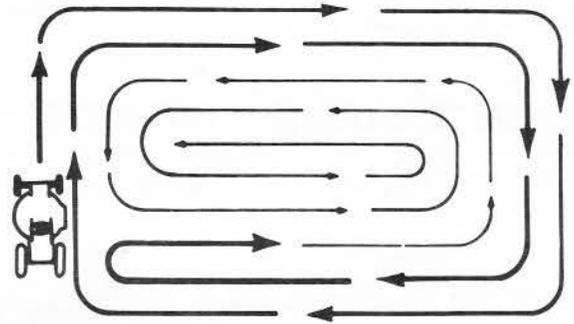

FIGURE 20
6. Drive so that clippings are discharged onto the area that has been cut. Have the cut area to the right of the machine. This will result in a more even distribution of clippings and more uniform cutting. When mowing large areas (Fig. 20) start by turning to the right so that the clippings will be discharged away from shrubs, fences, driveways, etc. After two or three rounds, mow in the opposite direction making left hand turns until finished. If grass is extremely tall, it should be mowed twice. The first time cut relatively high. The second time to the desired height. The left hand side of mower should be used for trimming.